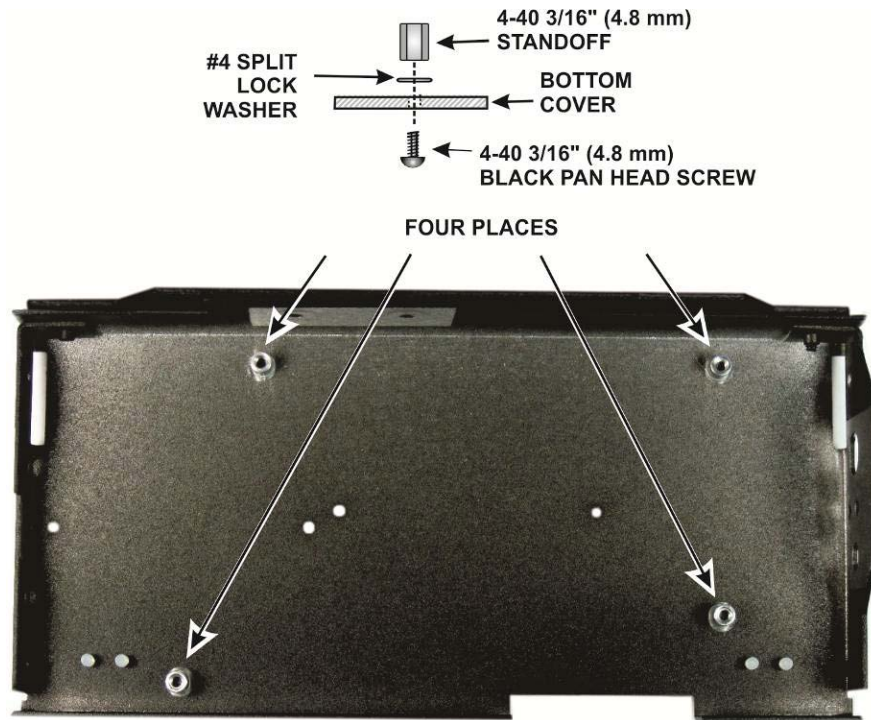

Figure 34. Installing 4-40 Standoffs in the Bottom Cover.
- Install the four #4 (larger) standoffs in the bottom cover as shown in Figure 34.